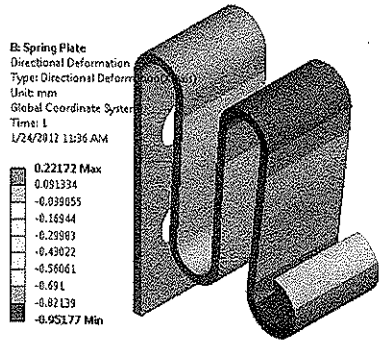

Figure 9-51 Directional Deformation along the X axis
10. Select all other parameters from the **Solution** node; the respective view is displayed in the Graphics screen. The table given next lists all the results obtained from the analysis. Also, Figures 9-51 to 9-54 show the corresponding graphical representation of values obtained.